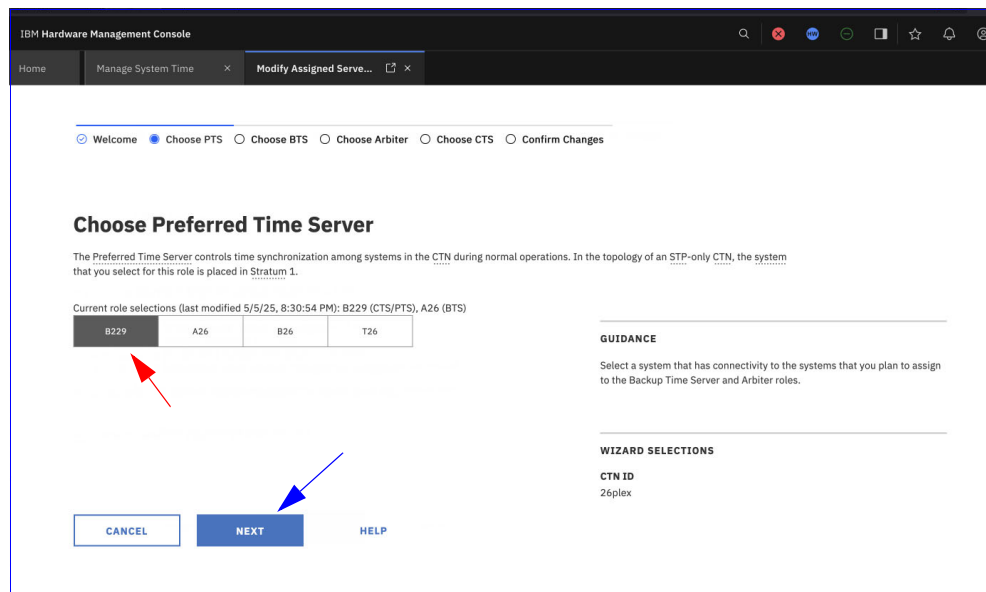

Figure 3-29 Selecting assigned server roles (PTS, BTS, Arbiter)
2. Click **NEXT** to select the Preferred Time Server, Backup Time Server, and Arbiter assigned roles, as in Figure 3-29.